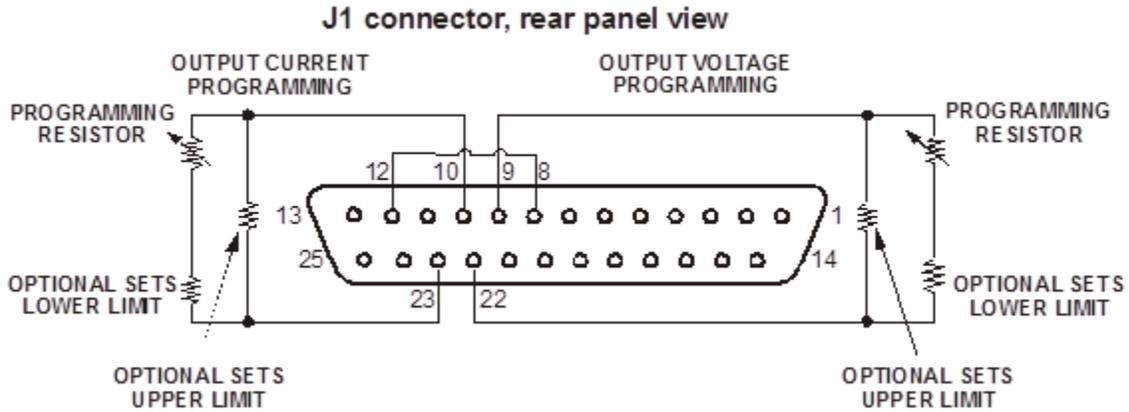

Figure 7-2. Remote Resistance Programming of Output Voltage and Current
6. Connect the programming resistors to the mating plug of J1 as shown in Figure 7-2.